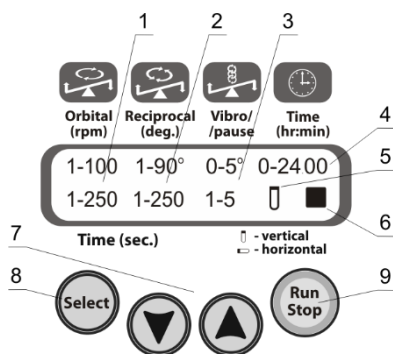

Figure 2. Multi Bio RS-24
- 5.3.4 Press the **Run Stop** key (fig. 2/9 or 3/9) to start the program.
- 5.3.5 The platform motion begins, and the corresponding indication is shown on the display: icon ► (fig. 2/6 or 3/6), the changing time values of the current movement type in seconds (fig. 2/1–2/3 or 3/1–3/3, lower line) and the operation timer in hours and minutes (fig. 2/4 or 3/4).
- 5.3.6 If the operation timer is not set and display shows 0:00 (fig. 2/4 or 3/4), pressing the **Run Stop** key causes continuous operation of the rotator until the **Run Stop** key is pressed again.
- 5.3.7 If the operation timer is set, after timer expires, the platform movement stops, display shows flashing indication ■ (fig. 2/6 or 3/6) and the unit sounds a signal about the end of operation. Press the **Run Stop** key to stop the signal.
- 6.1 Press the **Select** key (fig. 2/8 or 3/8) to choose the parameter to change. The active parameter is flashing.
- 6.2 Use the ▼ and ▲ keys (fig. 2/7 or 3/7) to set the necessary value. If the key is pressed for more than 2 s, the numerical values change quicker.
- 6.4 The countdown timer (fig. 2/4 or 3/4) is used to control the operation time. The timer can be set for the period from 1 min to 24 hours.
When the tube icon (fig. 2/5 or 3/5) is in vertical position, reciprocal rotation starts from tubes in vertical position (platform in horizontal position).